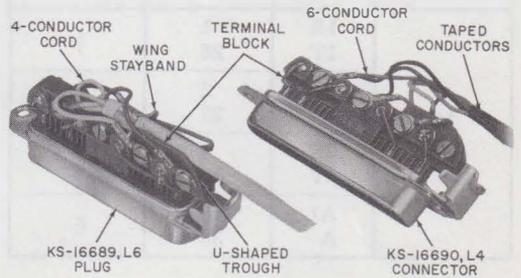
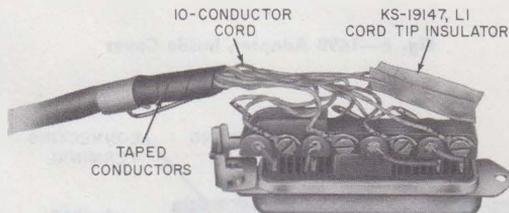

Fig. 9—153A and 153B Adapters, Hood Removed
Fig. 11—10-Conductor Cord in 153-Type Adapter
- 153A adapter consists of a KS-16689 L6 plug with a terminal block fitted to the back of plug body (Fig. 9).
- A U-shaped trough on top and at cord entrance end of the terminal block assembly (Fig. 9) serves to retain the wing-type stay band of cords so equipped.
- Cords with up to ten conductors (Fig. 9 and 11) may be used with the 153-type adapter. Only eight spade tips can be terminated. Insulate and store extra spade tips. Due to limited space, use KS-19147 L1 cord tip insulator (Fig. 11).